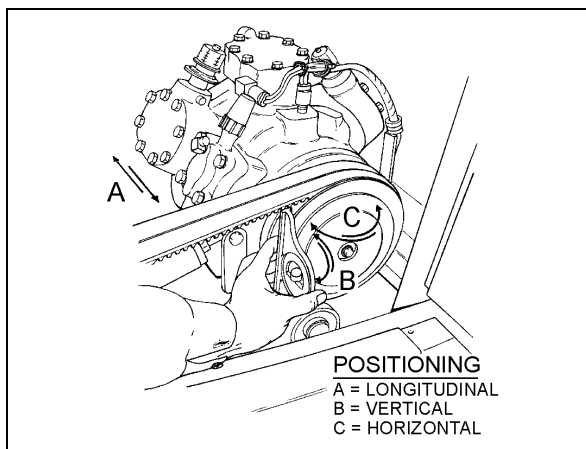

FIGURE 23: COMPRESSOR ALIGNMENT 22072
1. Rest an extremity of a straight edge of approximately 46 inches (117 cm) against the upper part of the outer face of crankshaft pulley, positioning the other end close to the compressor clutch pulley (Figs. 23 & 24).
2. Check the distance between each extremity of straight edge (1. Fig. 23) and the first drive belt. If they are different, loosen the compressor support bolts and with a hammer, knock support to slide it in order to obtain the same distance; then tighten bolts.
Rest a short "angle and level indicator" on the outer side face of the crankshaft pulley, adjust the level indicator inclination at 0° and check if the compressor pulley is at same angle (Fig. 23). If it is not the same, shim under the appropriate pillow block in order to obtain the correct angle.